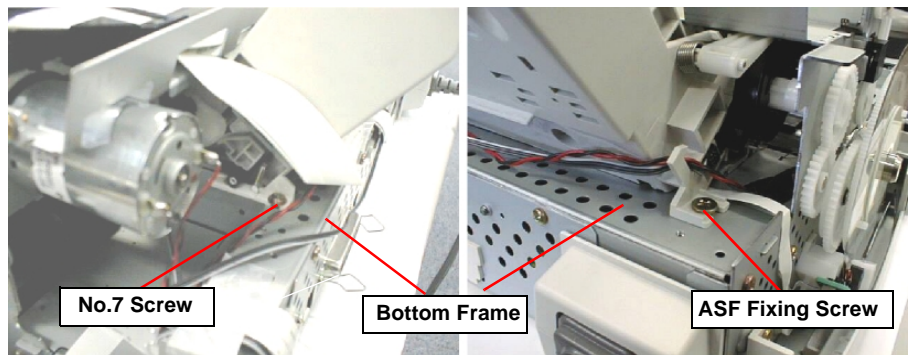

Figure 4-19. Removing the ASF Assembly (1)
- 3) Remove two screws (No.7 and ASF fixing screw) securing the ASF unit on the Bottom Frame. Refer to Figure 4-19.
- Screws for ASF Assembly should be used at the following positions. (Looking from the back of printer). Refer to Figure 4-19.